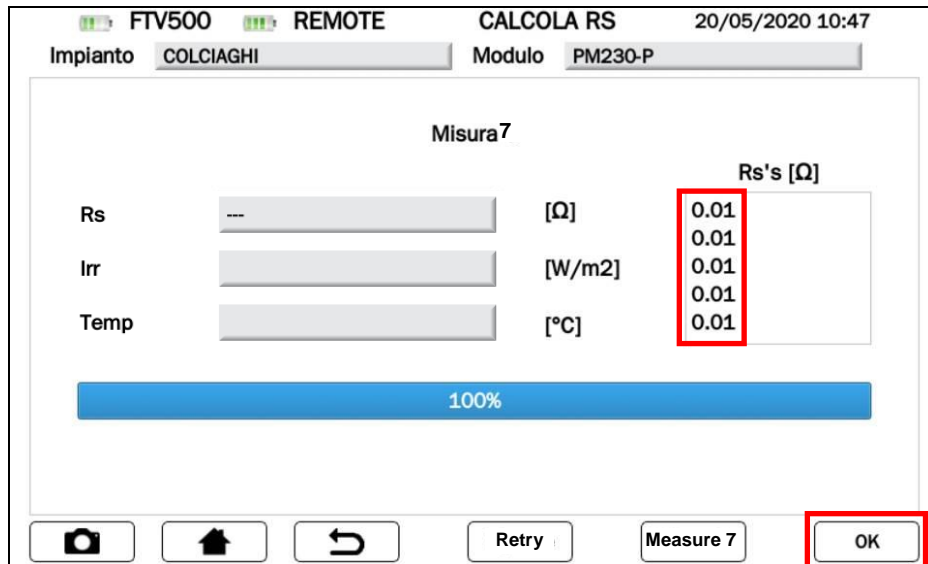

Figure 14.7.3-19 RS Measurement "x"
- NOTE: starting from Measure 2, and only if the result is displayed in "Ω" in the "Rs's" box, will the OK key be activated (see Figure 14.7.3-19), which if pressed will automatically perform the "Curve" test IV "